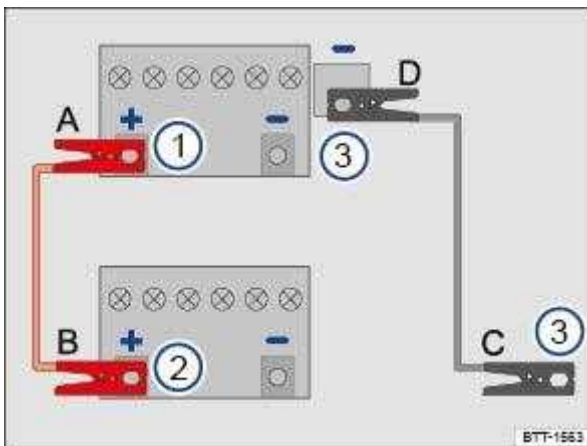

Fig. 177 How to connect the jump leads.
Key to ⇒ Fig. 177 :
The jump leads should be connected only in the order A – B – C – D ⇒ Fig. 177 .
☐ Connect one end of the red jump lead to the positive terminal (+) of the vehicle battery with the discharged 12-volt vehicle battery ⇒ Fig. 177 ① ⇒ ⚠ .
☐ Connect the other end of the red jump lead to the positive terminal (+) of the vehicle battery providing assistance ⇒ Fig. 177 ②.
☐ Connect one end of the black jump lead ⇒ Fig. 177 ③ preferably to a suitable jump start connection point (earth connection) or otherwise to a solid metal part that is securely bolted onto the cylinder block, or to the cylinder block itself of the vehicle providing assistance.
☐ On the vehicle with the flat 12-volt battery, connect the other end of the black jump lead ⇒ Fig. 177 ③ preferably to the jump lead connection point (earth connection), or otherwise to a solid metal part that is securely bolted onto the cylinder block, or to the cylinder block itself ⇒ ⚠ .
☒ When the engine is running, the jump leads should be removed only in the order D – C – B – A ⇒ Fig. 177 .